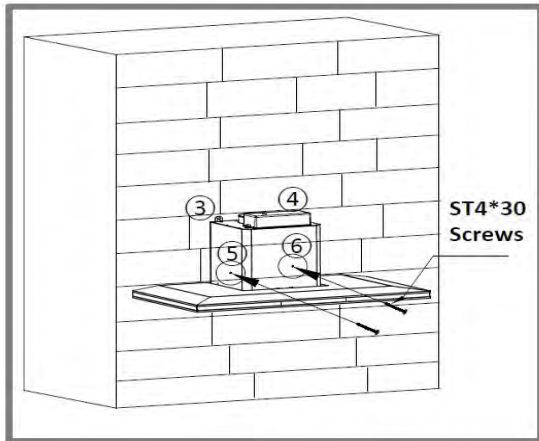

Fig. 8. 2
- Tighten the screws 3, 4, 5, 6 firmly after realignment. (Fig. 8. 2)